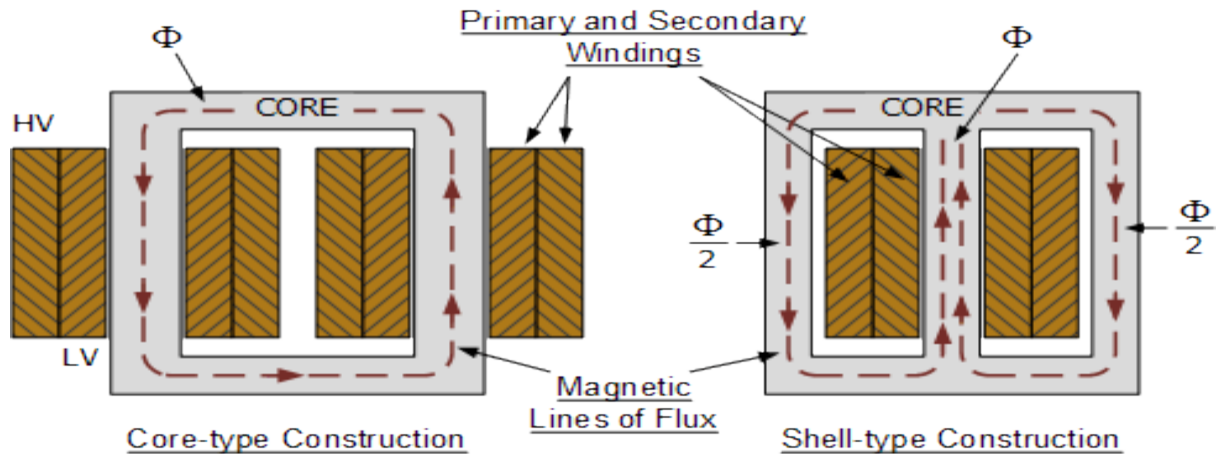

Fig 1.7: Types of cross sections of core in a transformer
- ❖ Core Type Transformer: In core type transformer, windings are cylindrical former wound, mounted on the core limbs as shown in the fig1.7 above. The cylindrical coils have different layers and each layer is insulated from each other. Materials like paper, cloth or mica can be used for insulation. Low voltage windings are placed nearer to the core, as they are easier to insulate.
- ❖ Shell Type Transformer: The coils are former wound and mounted in layers stacked with insulation between them. A shell type transformer may have simple rectangular form (as shown in above fig 1.7), or it may have a distributed form.